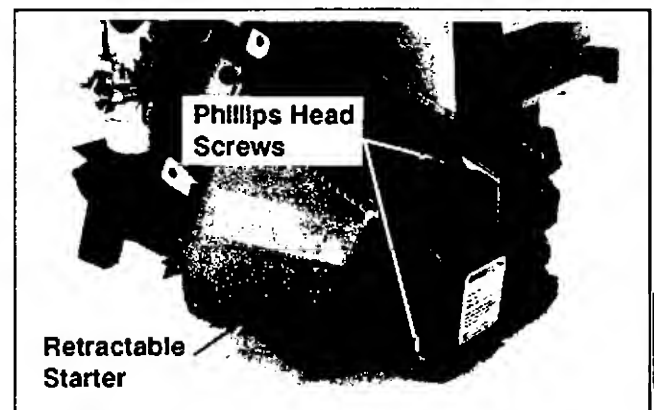

Figure 11-36. Installing Retractable Starter.
1. Install the retractable starter and Phillips head screws to the blower housing. See Figure 11-36.